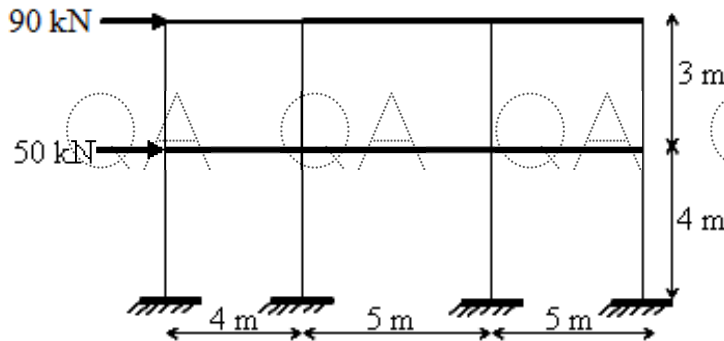

Figure 3
5. Using cantilever method, analyse the frame shown in Figure 3. Draw the bending moment diagram. Assume the geometrical and material properties are the same for the elements of the frame. [10]